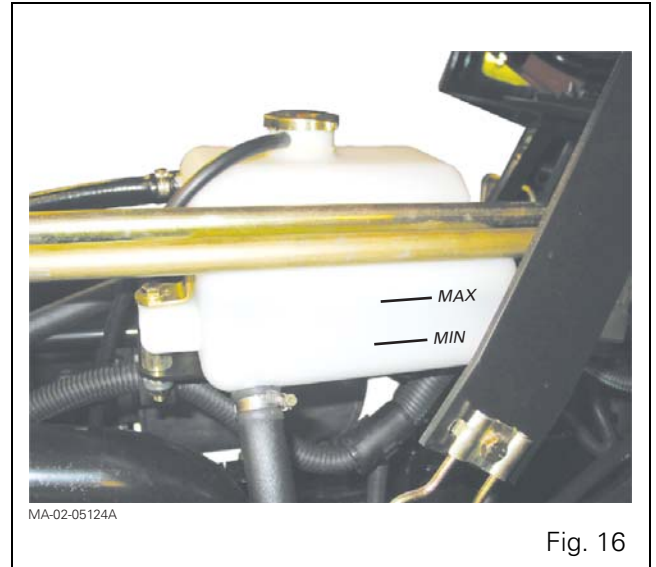

Fig. 16
- make up the **level of coolant**, to the maximum level marked on the expansion tank (Fig. 16);